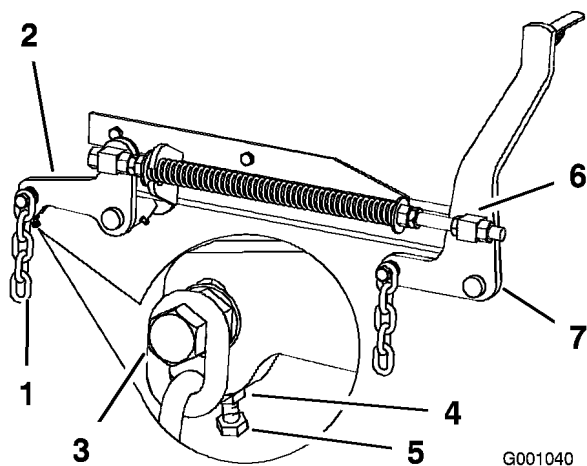

Figure 64
7. If the measurements at positions **B** or **C** are not correct, loosen the bolt attaching the rear chain to the rear support arm (Figure 64).
- Loosen the jam nut under the rear support arm and adjust the adjustment bolt to get a measurement of 3-1/8 to 3-1/4 inches (Figure 64).
- Loosen the front swivel jam nuts, at the front of the right and left swivels, approximately a 1/2 inch (13 mm) (Figure 64).
- Adjust the lift nuts on both the left and the right side of the machine to achieve 1/4 to 3/8 inch (6 to 10 mm) lower in front at **A** than in the rear at **B** (Figure 64).